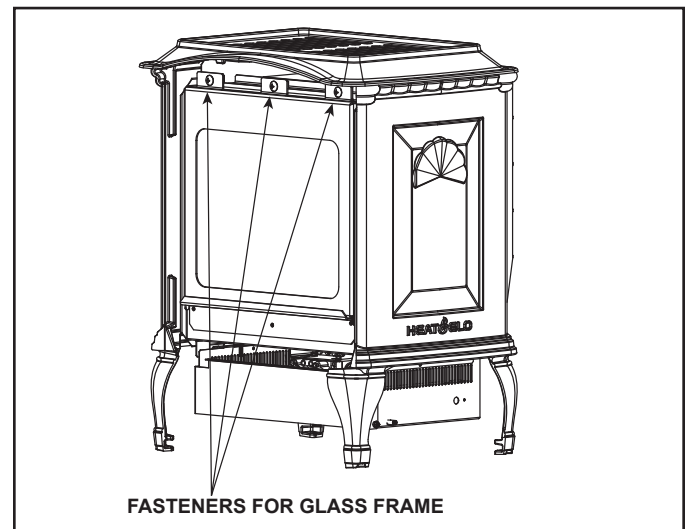

Figure 4.2 Remove Glass Frame
- Remove three Phillips head fasteners at top of glass assembly. See Figure 4.2.